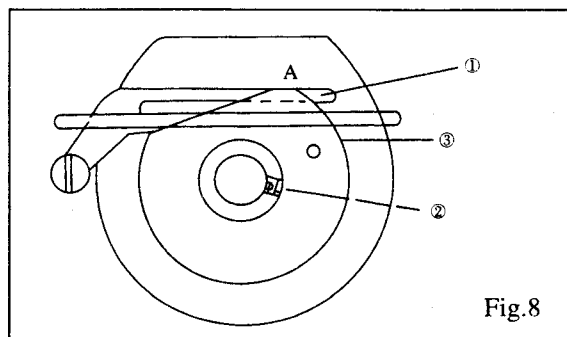

Fig.8
4. Chain Looper Thread Cam Control Fig.8